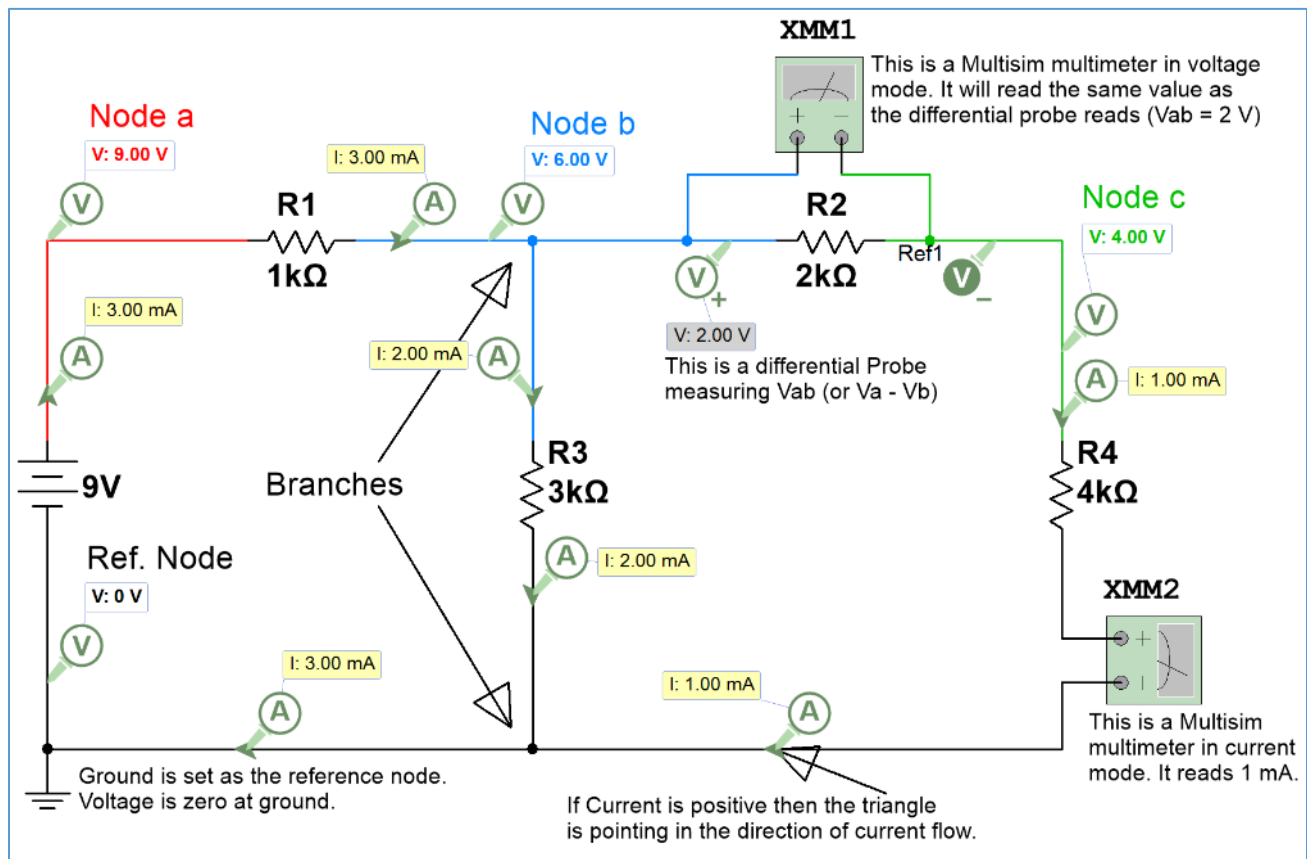
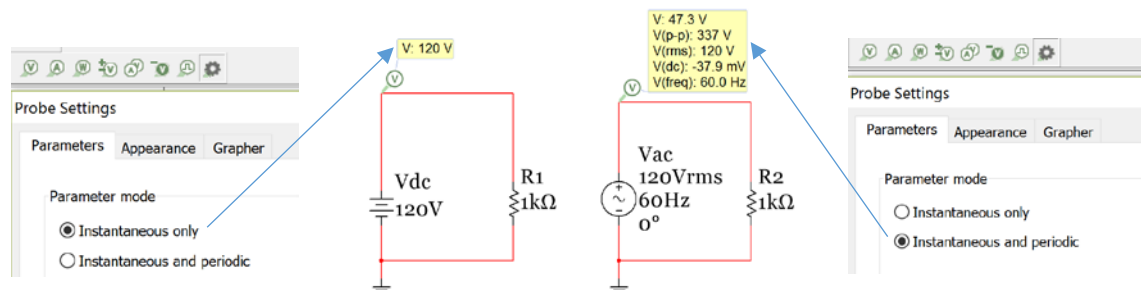
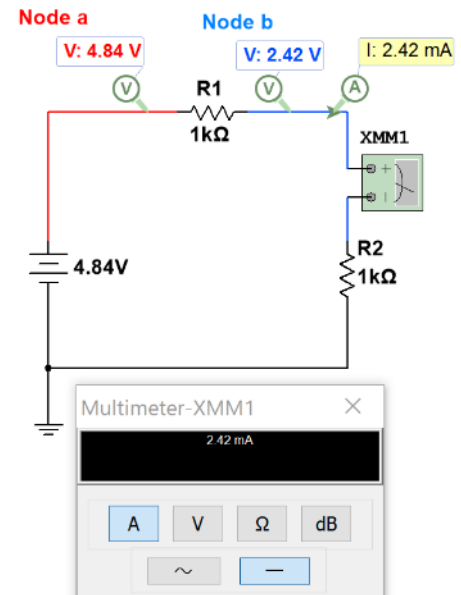

Figure 1.7: Circuit showing probes, Multimeters, branches, and nodes.
Figure 1.7a: Preferred probe settings for DC circuits (Left) and AC circuits (Right).
Figure 1.8: Circuit showing current measured with a Multimeter.
Before discussing current let's look at some statements about voltage. Figure 1.7 provides some visual explanations to these statements.
- Voltage is the same at all points on a node (a place shared by 2 or more circuit elements). For example, the blue line that represents Node b in Figure 1.7 is 6 V at every point on the blue line.
- When measuring voltage across one or more components with a Multisim Multimeter (see XMM1) you wire two different nodes to the + and – terminals and then double click on the meter and put it in Volts mode (V) and DC mode (straight line). XMM1 reads the voltage value across R2, which is also the value of Vab. Vab is the difference between node voltages Va and Vb. Vab is an example of **double subscript notation** ($V_{ab} = V_a - V_b$). Va is an example of **single subscript notation**. Va is the voltage at node a, and the reference is ground. When ground is not the reference for the measurement differential probes can be used to measure the voltage difference between nodes.
- Current doesn't change as it runs through components until it is split in a branch (see Figure 1.7). Voltage doesn't change at a branch unless it goes through a circuit element.
- When measuring current with a Multisim Multimeter (see XMM2 in Figure 1.7) you have to break the circuit and run it through the meter and then double click on the meter and put it in Amps mode (A) and DC mode (straight line). The same process is used to measure the current with an actual Multimeter as shown in Figure 1.8.
Note: In Figure 1.7 all of the probes only have I and V, but when the current and voltage probes are normally placed in Multisim the “Instantaneous and periodic” probe setting is the default so you will see 5 voltage measurements (as shown in Figure 1.7a). From top to bottom these voltage measurements are: 1-Instantaneous, 2-peak to peak (V_{pp}), 3-Root-Mean-Square (V_{rms}), 4-average (V_{avg}), and the 5-**frequency**. The average voltage is labeled V(dc) in the Multisim probe because V_{avg} is equivalent to the DC value. The instantaneous voltage is the value at a specific time and will continuously change as the AC current flows through the circuit. These four **additional parameters** for voltage or current are only used for AC circuits. When dealing with DC circuits there is only one type of voltage and current so only the instantaneous measurements are needed. To get only the DC current or voltage click on the probe settings and change the default to “Instantaneous Only” as shown in Figure 1.7a.
The circuit in Figure 1.8 shows a simple circuit with two resistors in series with a battery pack that has three AA batteries in it. You can see how one end of one of the resistors is pulled out of the breadboard to break the circuit and allow current to be measured with the Multimeter.
Example 1.8) using equation 1.6 solve for the current flowing through the R_1 resistor in Figure 1.8.
Answer: Applying equation 1.6 to the circuit in Figure 1.8 yields: